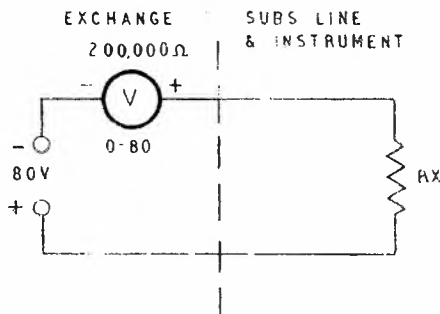

FIG. 2.
- Using the Series Voltmeter method, as shown in Fig. 2, calculate the insulation resistance of a subscriber's line when the testing voltage is 80V, the voltmeter resistance is 200,000 ohms, and the voltmeter reading when connected in circuit, is 20V.